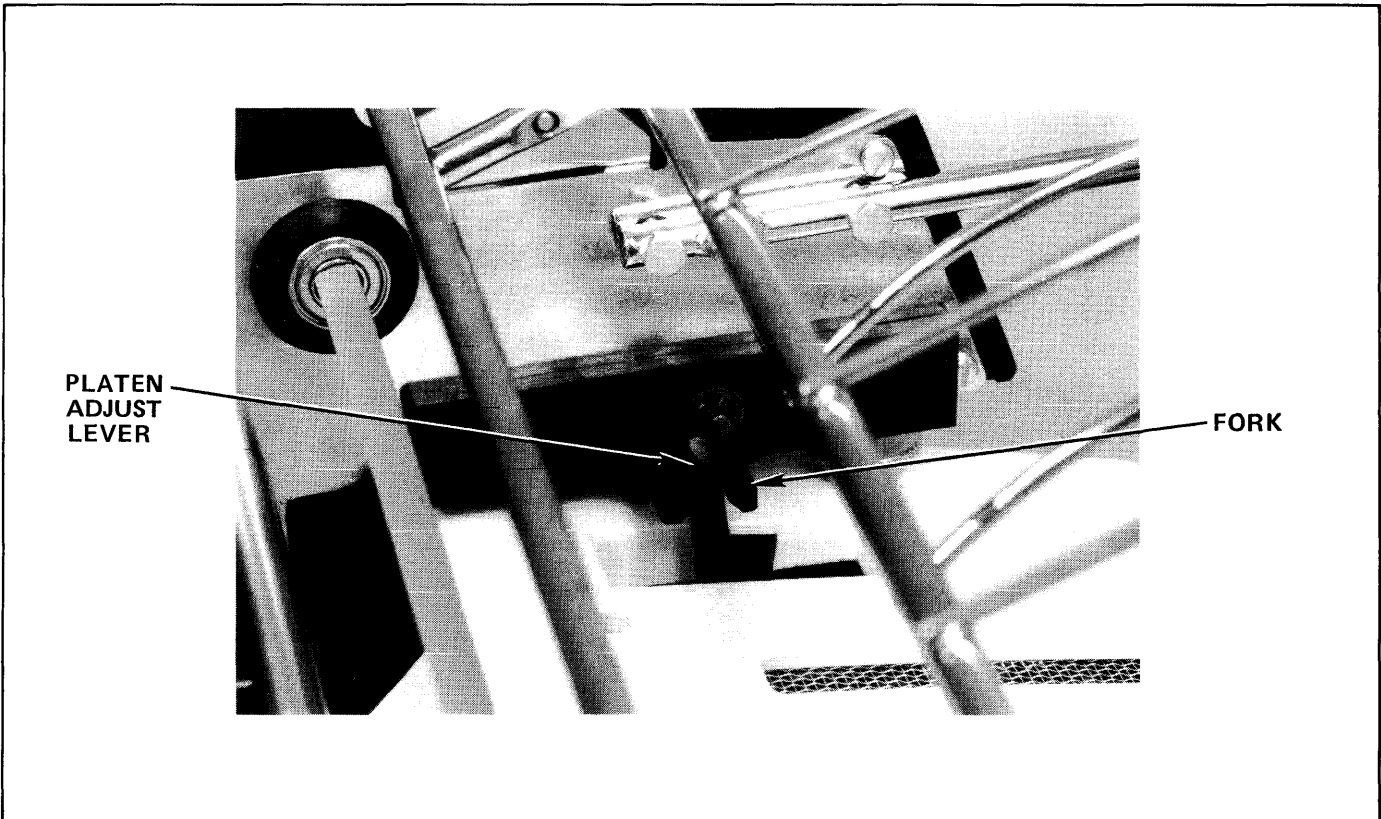
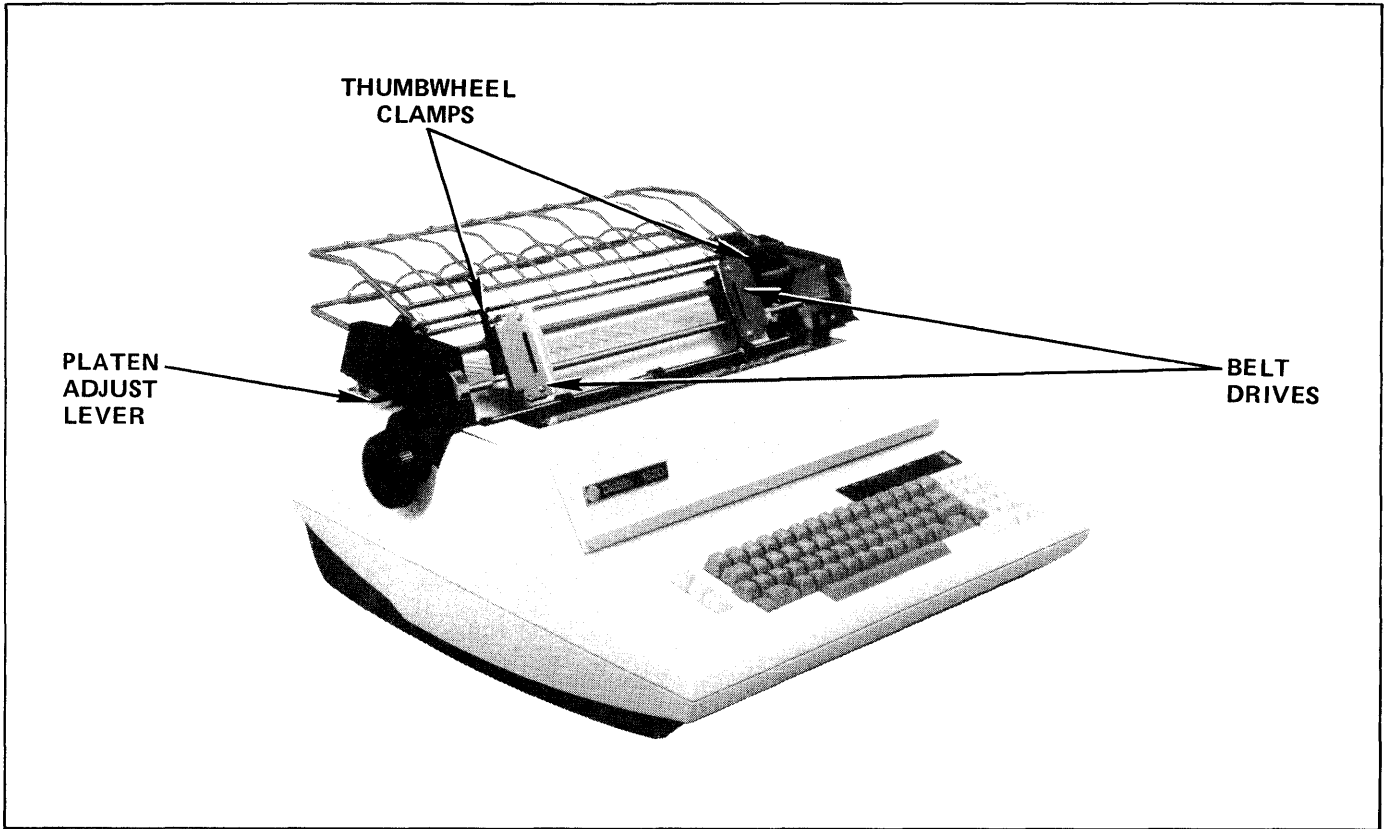

Figure 2-17. Forms Tractor and Platen Adjust Lever
Figure 2-20 Forms Tractor Installed
- (3) Position the fork on the inside left end of the forms tractor around the platen adjust lever, as shown in Figure 2-17.
- (7) Verify that operating the forms tractor platen adjust lever (Figure 2-20) moves the printer platen adjust lever (Figure 2-17).
- (8) Adjust the two belt drives to the appropriate form width by loosening the thumbwheel clamps and sliding the drive sideways until the desired position is reached (Figure 2-20).